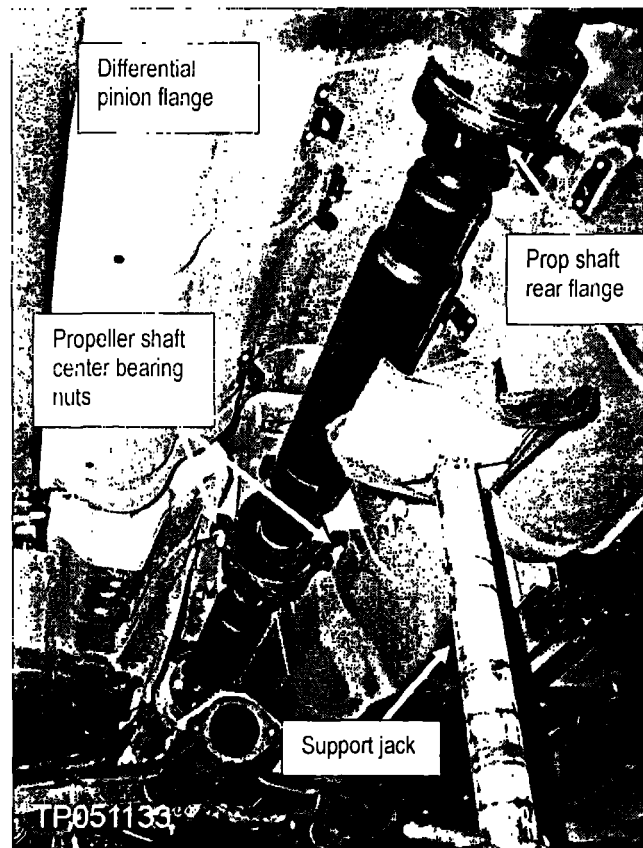

Figure 18
22. Position a support jack about six inches below the propeller shaft (see Figure 18). Then remove and discard the propeller shaft center bearing nuts and carefully lower the shaft onto the support jack.